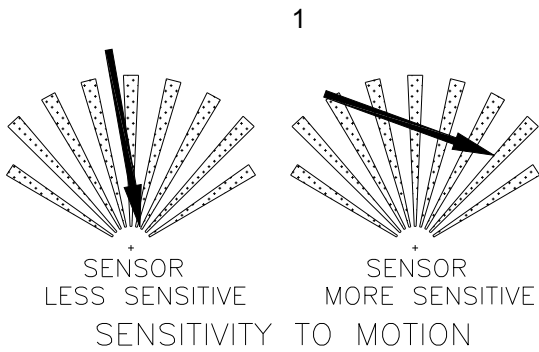

FIGURE 3
- Prior to mounting, keep in mind that the motion sensor is most sensitive to motion, that is across the detection field and less sensitive to motion, that moves directly towards the detector. (FIGURE 3)